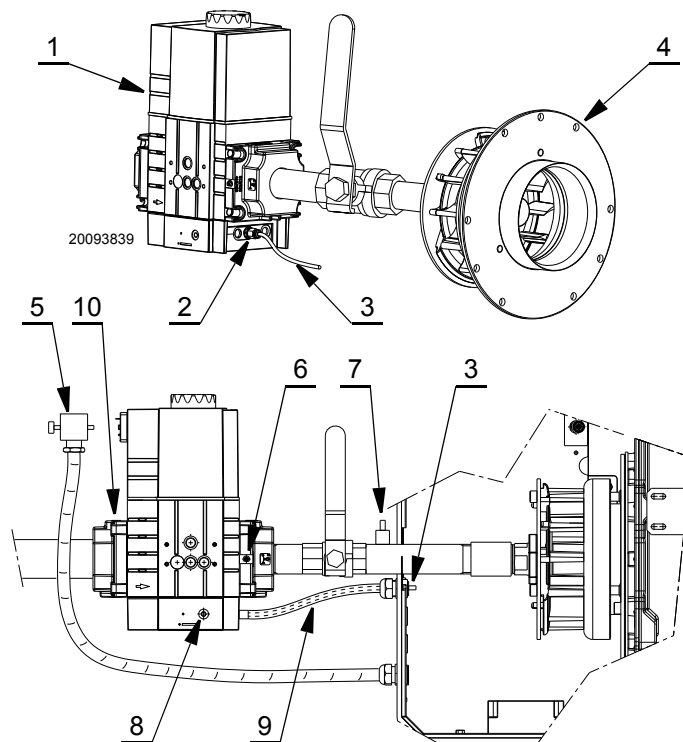

Fig. 170
Turn the screw V1 of the gas valve lightly towards the “+” sign (Fig. 170 at page 57). If, however, at the end of the safety time the burner starts but then switches off, the burner goes into lockout and the display shows **Loc:7** blinking (disappearance of the flame when in operation).
- Turn the screw V1 towards the “+” sign (Fig. 170 at page 57).
- Check the appearance of the flame, if possible, or the value of the CO and CO₂ to understand whether the burner has been sufficiently calibrated (first maximum calibration). If necessary use the screw V2 of the gas valve (turn towards the “+” sign to increase the gas, towards the “-” sign to decrease the gas) (Fig. 170 at page 57).
- Check the appearance of the flame, if possible, or the value of the CO and CO₂ to understand whether the burner has been sufficiently calibrated (first maximum calibration). If necessary use the screw V1 of the gas valve (turn towards the “+” sign to increase the gas, towards the “-” sign to decrease the gas) (Fig. 170 at page 57).
- to increase the gas delivery and the CO₂: turn the V1 screw towards the “+” sign (Fig. 170);
- to reduce the gas delivery and the CO₂: turn the V1 screw towards the “-” sign (Fig. 170);
Key (Fig. 170)